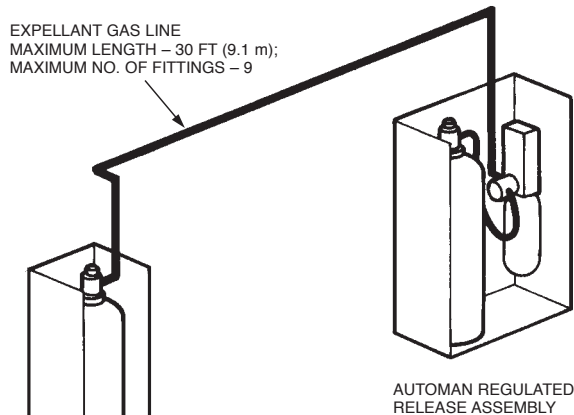

FIGURE 4-124
1. The expellant gas line is installed from the regulated release mechanism in double, three, and multiple-tank systems, and from the regulated actuator assembly in multiple-tank systems. The expellant gas line is the piping and/or hose between the regulator and the tank-enclosure/tank-bracket assembly. The total length of the expellant gas line from the regulated release mechanism or each regulated actuator assembly **must not exceed 30 ft (9.1 m)** when using a “double-tank” cartridge, an LT-A-101-30 Cartridge, or a 101-30 Cartridge. See Figures 4-124 and 4-125.